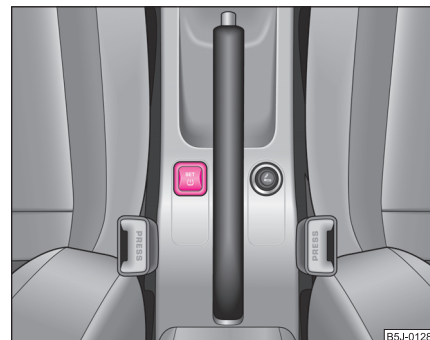

Fig. 135 Button for setting the tyre inflation pressure control value
- Press the button **SET** (⏏) ⇒ page 171, fig. 135 long enough, until an acknowledgment tone sounds, which confirms the storage of the basic values. As long as the button **SET** (⏏) is pressed, the warning light lights up in the instrument (⏏).